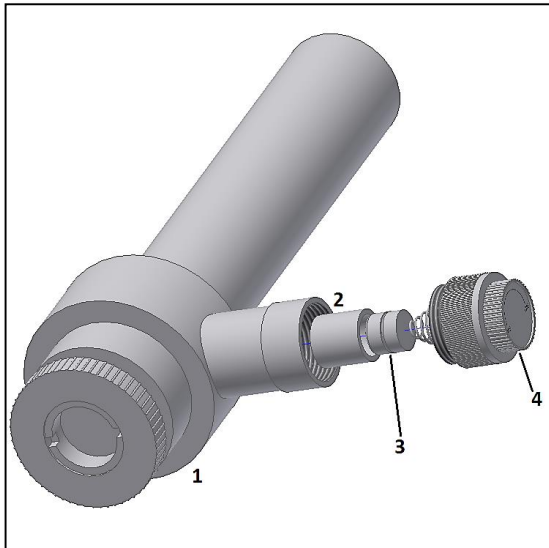

Figure 1. Polar finder main parts.
2. Getting Started. Start by getting familiarized with the polar finder (figure 1)